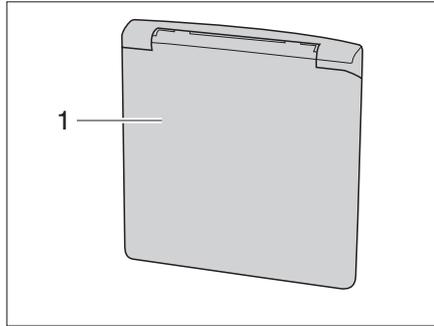

Fig. 13 Flap for 230 V connection
- ▶ Grip the external flap (Fig. 13,1) at the bottom and lift it upwards.